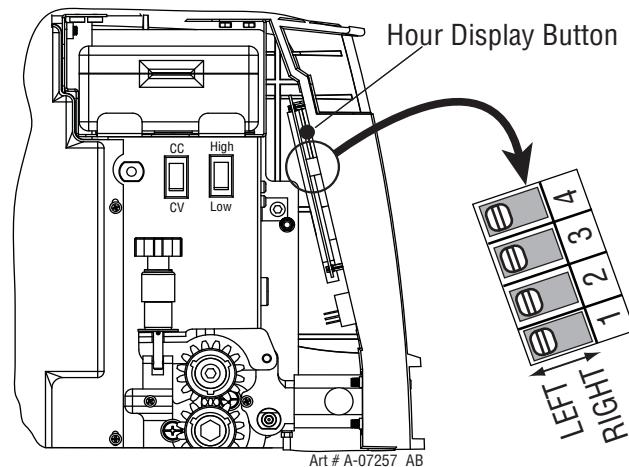

Figure 4-7: Meter DIP Switches
2. Locate the 4 white DIP switches on the side of the meter display's printed circuit board. Refer to Figure 4-7.
The total number of arc hours that the VS 212 has been operating can be displayed by pressing and holding the small black button located directly above the 4 DIP switches shown in Figure 4-7. The reading is displayed over both meters as follows: